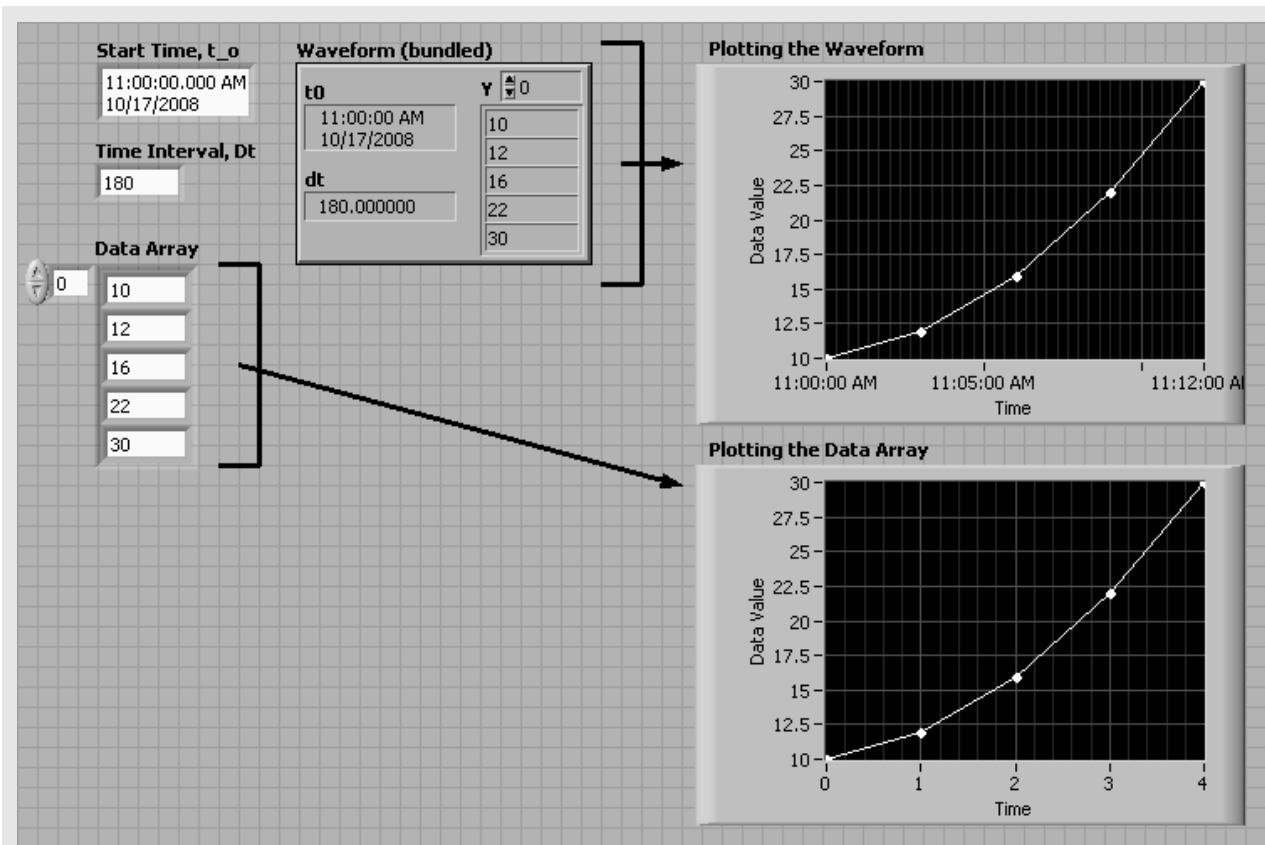

Figure 7.34
LabVIEW's Waveform Graph indicator will accept a waveform as input (so will a Waveform Chart). To illustrate the difference between plotting arrays and plotting waveforms, consider a data set that was collected starting at 11:00 AM with an interval between measurements of 3 minutes (180 seconds). The measured values were: 10, 12, 16, 22, and 30. In Figure 7.34 both the waveform and the 1D array have been plotted using Waveform Graph indicators.
- **Waveform**—When the waveform was sent to the Waveform Graph (upper graph in Figure 7.34), start time and time interval information was available to the graph indicator, so actual time values were plotted on the x axis.
- **1D Array**—When the data array was plotted (lower graph in Figure 7.34) the Waveform Graph received no information about time, so the markers on the Time axis just represent array index values.